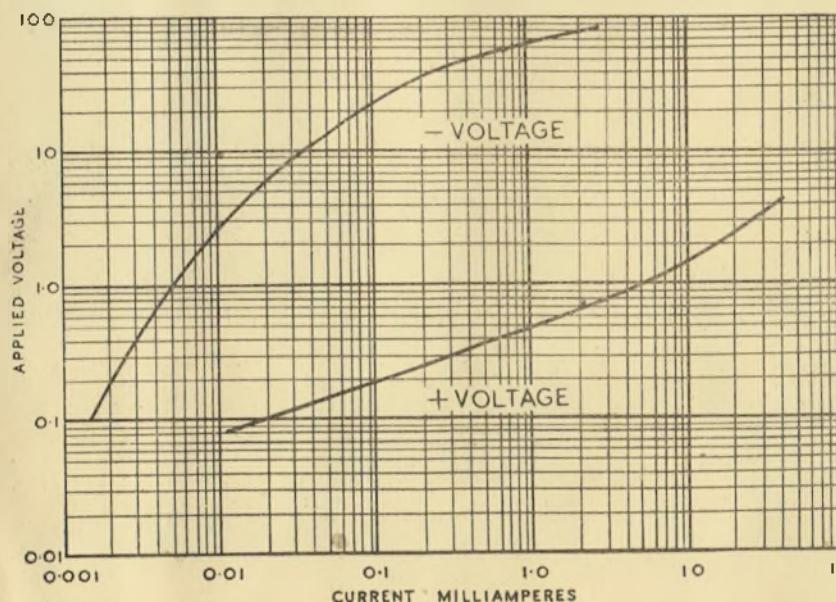
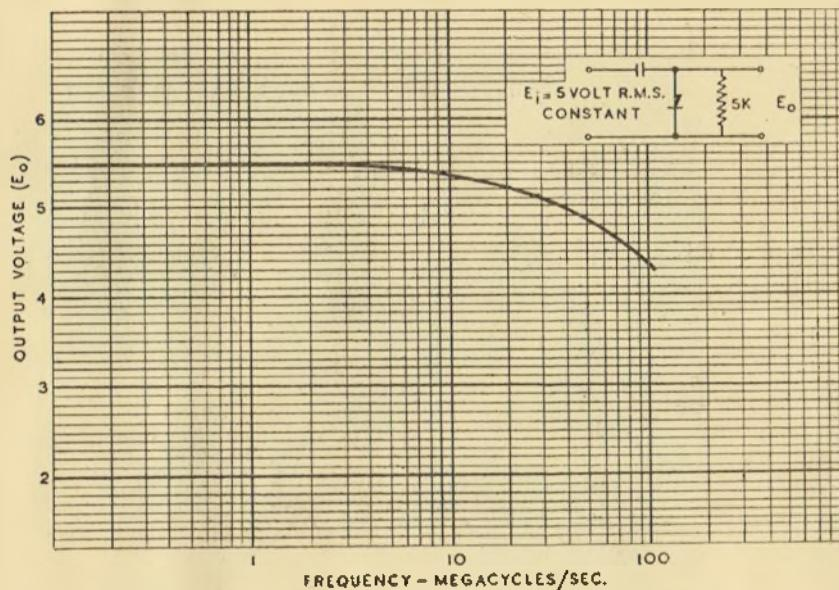

Fig. 2. Typical D.C. Characteristic Curves of Germanium Crystal Rectifier.
Fig. 3. Typical Frequency Response Characteristics of Germanium Crystal Rectifier.
contained in the box should equal that of the loudspeaker cone. If this is achieved, the effect on the low-frequency performance of the speaker is somewhat as in Fig. 2. The box greatly reduces the bass resonance of the speaker, by adequately loading it at this frequency, and instead produces two peaks in the impedance curve, one slightly higher in frequency, and one slightly lower than the original speaker resonance. Quality of bass reproduction is improved because of (1) the reduction in amplitude of the resonant rise, (2) the extension of the low-frequency response of the speaker, and (3) the fact that the vent acts in such a way that the low-frequency energy radiated from the back of the cone is projected from the vent in phase with that from the front of the cone, thereby increasing again the low-frequency output of the combination when compared with the same speaker unit used on a conventional flat baffle.
Figs. 2 and 3 illustrate graphically typical operating characteristics of the Germanium Rectifier. Fig. 2 shows D.C. characteristics, while Fig. 3 is a Frequency Response Curve.